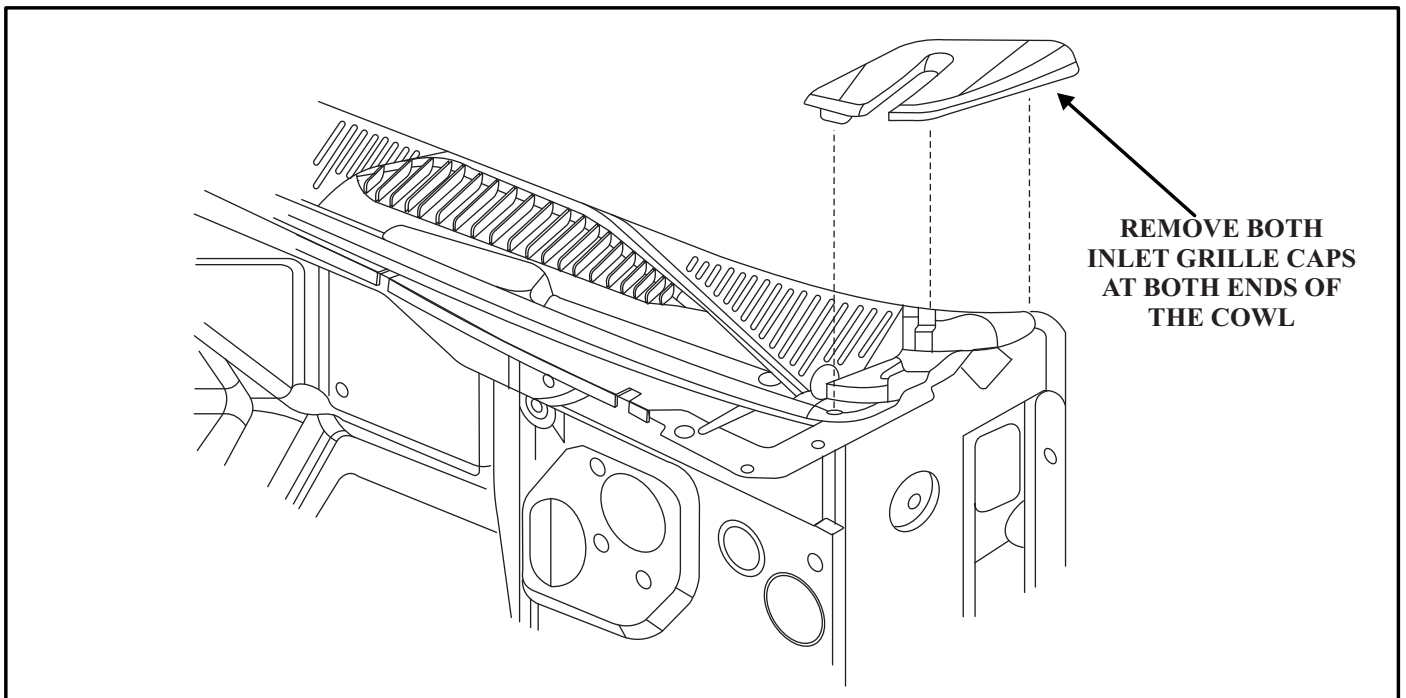

Figure 2
CORRECTION: To repair this condition start by removing the two (2) air inlet grille caps by pulling up on the caps, (Refer to Figure 2).